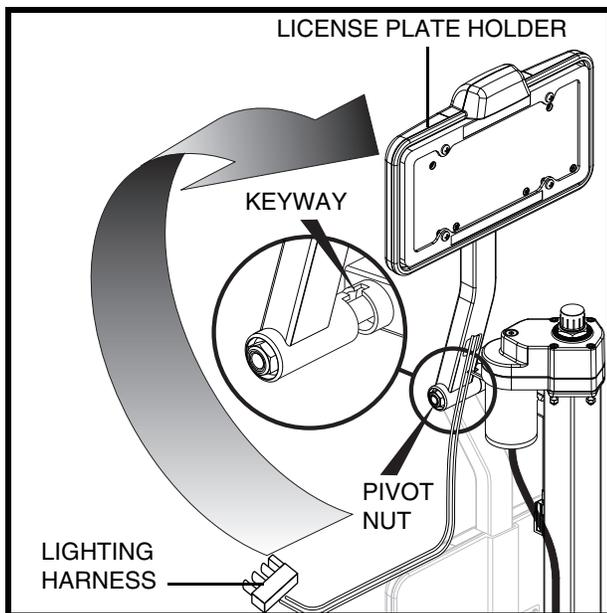

Figure 8. License Plate Holder
The license plate holder should be rotated to the upright position during installation. **See figure 8.**
2. Rotate the license plate holder to its upright position. Once in the upright position, the license plate holder will automatically lock into place. **See figure 8.**